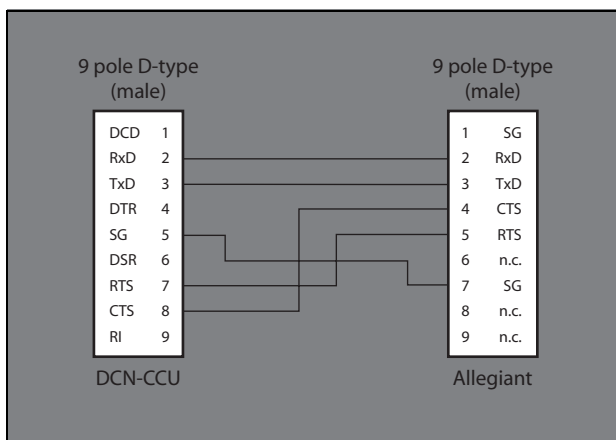

figure 8.22: Central control unit to video switcher
- 12 Connect the central control unit to the Allegiant video switcher (refer to figure 8.22).
When you make the cable that figure 8.22 shows, mark the ends of the cable with 'CCU' and 'Allegiant'. This makes sure that you connect the cable in the correct direction. When you connect the cable in the incorrect direction, the central control unit cannot send data to the Allegiant video switcher.